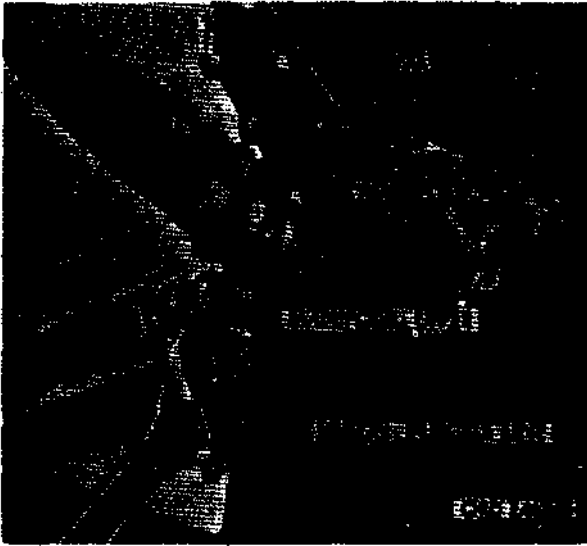

Figure 76. Disconnecting flexible lines at manifolds.
(4) Remove control valve assembly and manifolds.
- (a) Disconnect the four flexible lines (fig. 76) at flexible line unions in upper and lower manifold.
- (5) Install flexible lines at manifold. Install four flexible lines to hydraulic cylinders (fig. 78). Install opposite end of flexible lines to upper and lower manifolds at control valve assemblies as shown in figure 76.
- (6) Install hoist assembly on the vehicle. Refer to paragraph 74.